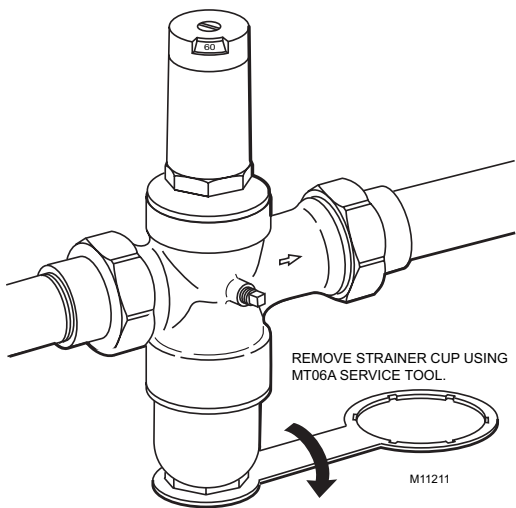

Fig. 5. Removing Strainer Cup.
5. Remove the strainer cup (See Fig. 5).
2. Remove the strainer cup (See Fig. 5).